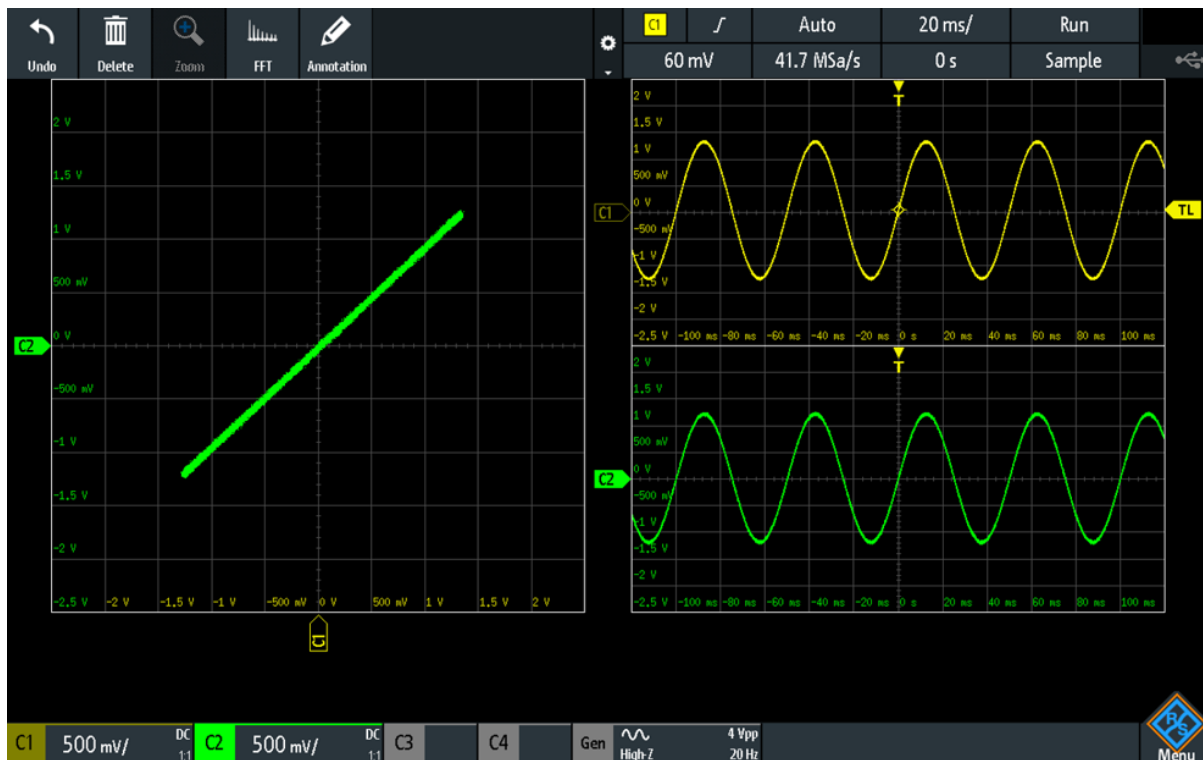

Fig. 3.8: Oscilloscope screenshot showing the XY mode for sine waves at the input and output of the transmission line.
To look at the phase difference of the sine wave at the input and output of the line, we could look at the two signals superimposed visually on the oscilloscope display. However, it is much more accurate to display phase differences by using the 'XY' mode on the oscilloscope, also known as 'Lissajous figures'. Press the 'Apps' button ((7) in Fig. 3.4) and chose the 'XY' view. You should see something similar to Fig. 3.8.